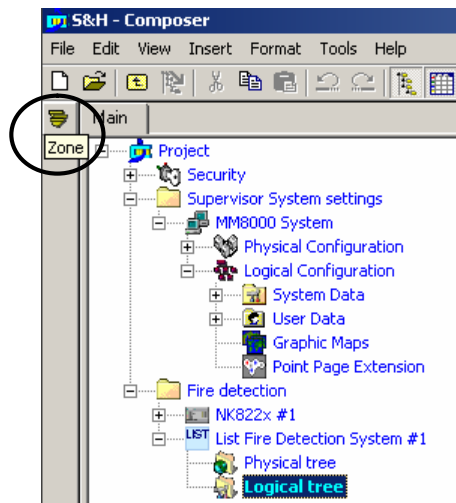

Fig. 12 Adding Zone objects in the Logical Tree
5. Click the 'Zone' icon (Fig. 12) to add as many zones as required by your configuration.